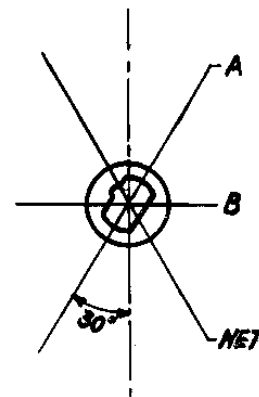

FIG. 5 - A-B-NET SWITCH
35. Before replacing the function switch spindle ensure that all the switch sections are set so that the view through the hole in the front panel is as shown in Fig. 5. When easing the spindle back into position, hold the knobs in such a way that they will occupy the positions R and B when the spindle is fully home. This ensures that the front and rear portions of the spindle are in alignment and will thus pass through the switch without damage to any of the switch wafers.